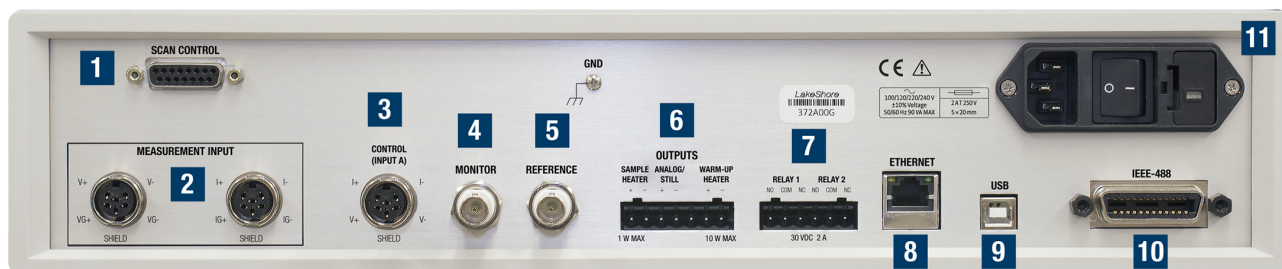

FIGURE 3-1 Model 372 rear panel
This section provides a description of the Model 372 rear panel connections. The rear panel consists of the measurement input connectors (#2 in FIGURE 3-1), scanner control connector (1), control input connector (3), diagnostic monitor output connector (4), reference output connector (5), sample heater, warm-up heater and analog output terminal block connector (6), relays 1 and 2 terminal block connector (7), RJ-45 Ethernet interface (8), USB type-B port (9), IEEE-488 interface (10), and the line input assembly (11). Refer to section 8.1.0 for rear panel connector pin-out details.